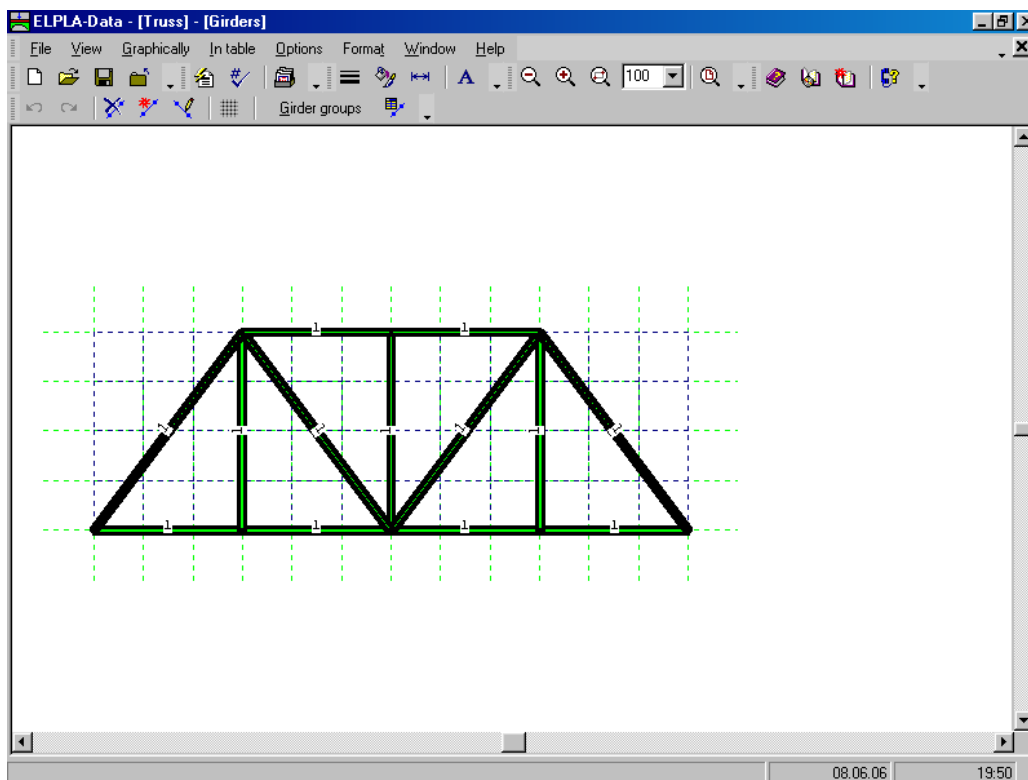

Figure 6-17 Girders on the screen
Repeat the previous steps to add the remaining girders on the net. After you have completed the definition of all girders, the screen should look like the following Figure 6-17.
- Choose "Save girders" command from "File" menu in Figure 6-17 to save the data of girders
- Choose "Close girders" command from "File" menu in Figure 6-17 to close the "Girders" embedded program and to return to the main window of *ELPLA-Data*